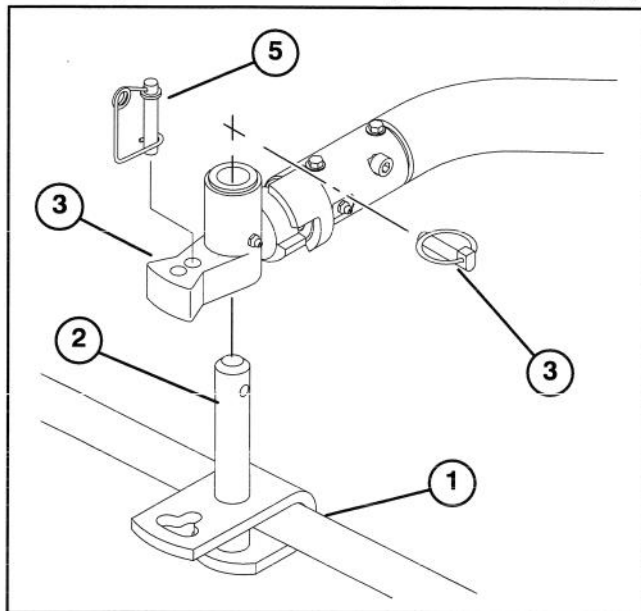

Figure 7
6. Insert the pivot shaft of the carrier frame into the mounting hole at the end of the pivot knuckle (Fig. 7).
7. Insert lynch pin into cross hole on pivot shaft (Fig. 7).
10. Insert steering pin into front mounting hole on pivot knuckle (Fig. 7). Rear mounting hole is not recommended for dethatcher use.